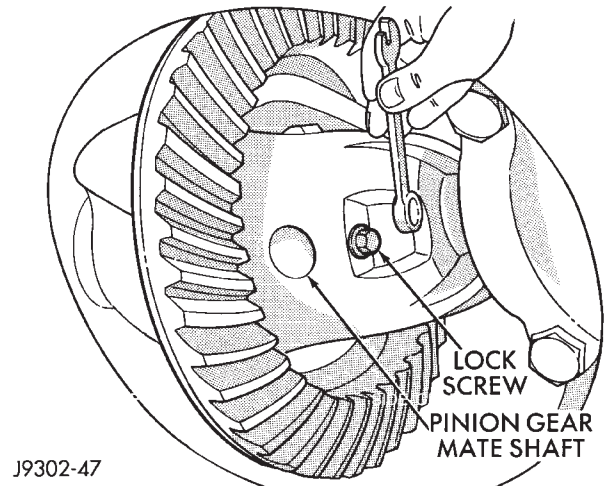

Fig. 55 Pinion Gear Mate Shaft Lock Screw
- (1) Remove pinion gear mate shaft lock screw (Fig. 55).
- (2) Remove pinion gear mate shaft.